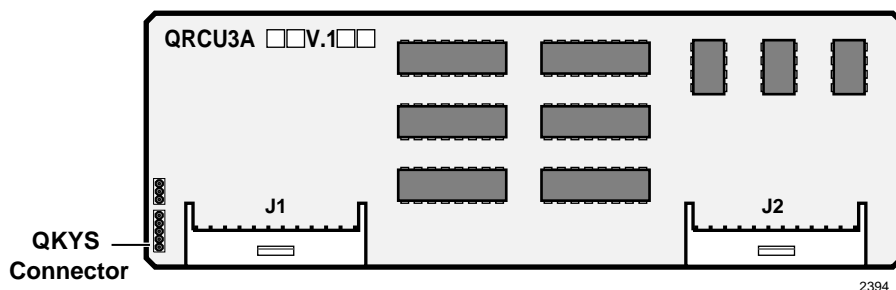

Figure 1-13 QRCU3 Printed Circuit Board
2. Align and insert the QRCU3 connectors J1 and J2 (see Figure 1-13 into the motherboard connectors J15 and J16 respectively (note the component side placement in Figure 1-4). Apply firm, even pressure to ensure proper mating of connectors. Push down until the connectors lock together.
2. Install the QKYS1 into the QKYS1 connector on the QRCU2 PCB (see Figure 1-13).